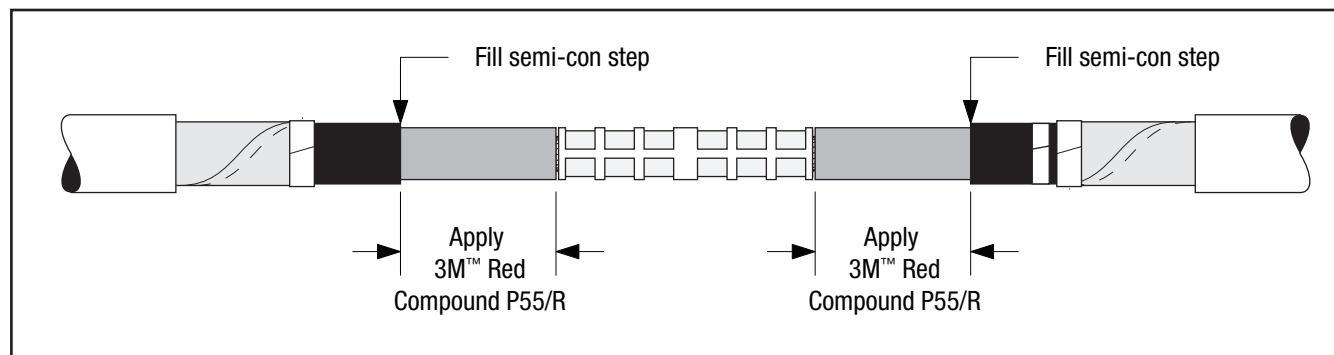

Figure 12
4.4 Apply 3M Red Compound P55/R on cable insulations, making certain to fill in edge of cable semi-con. **Do not use silicone grease** (*Figure 12*).